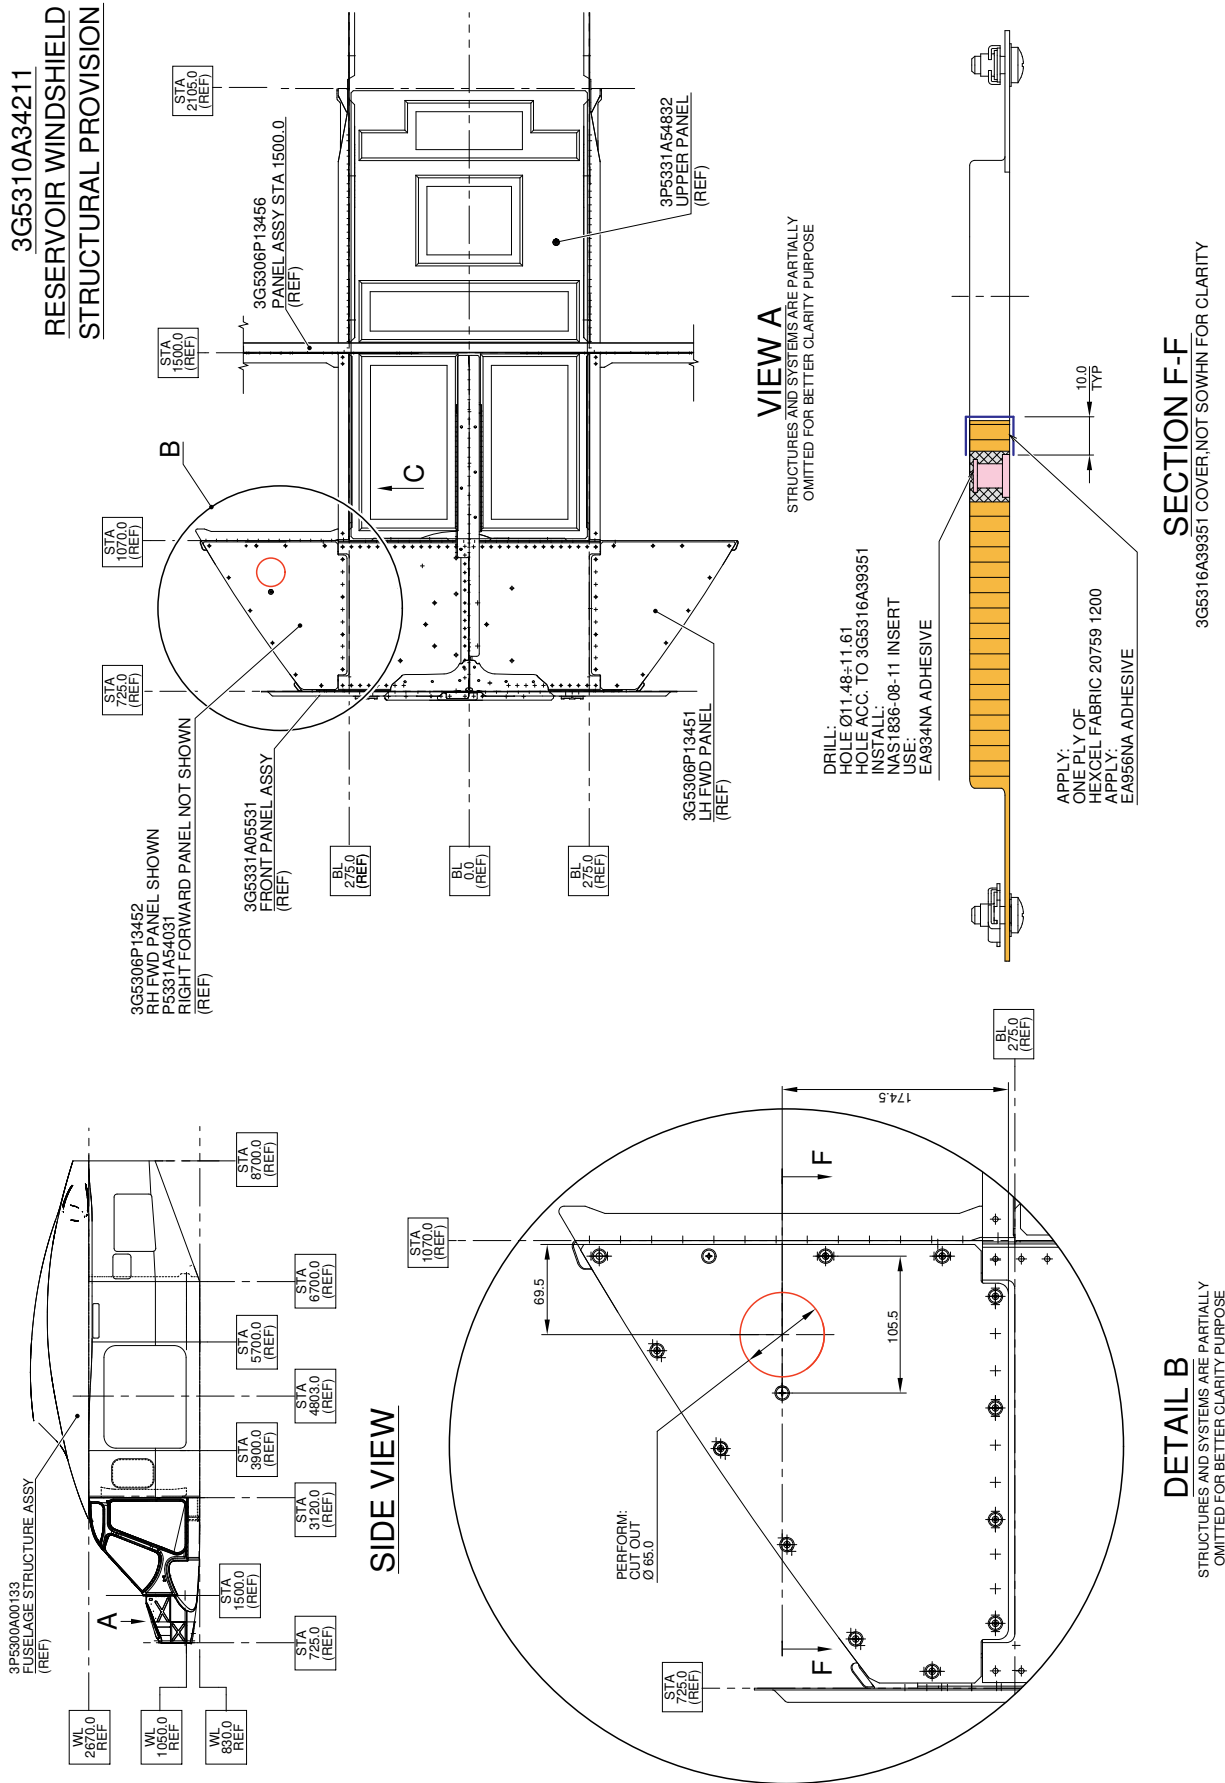

Figure 2
3. With reference to Figure 2 Detail B, perform the indicated cut-out on the panel.
4. With reference to Figure 2 Detail B and Section F-F, apply one ply of fiberglass (C930) on the cutout edges by means of adhesive EA 956 AERO (C193).
5. With reference to Figure 2 Section F-F, drill a hole \varnothing 11.48 \pm 11.61 through the RH FWD panel P/N 3G5306P13452.
6. In accordance with CSRP DM CSRP-A-51-42-00-00A-720A-D and with reference to Figure 2 Section F-F, install insert P/N NAS1836-08-11 by means of adhesive EA934NA (C397).